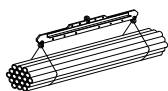

Figure 3
2. Use as 2, 3, or 4 point lifting, or spreader beam (See Figure 3, 4, and 5 for point lifting).